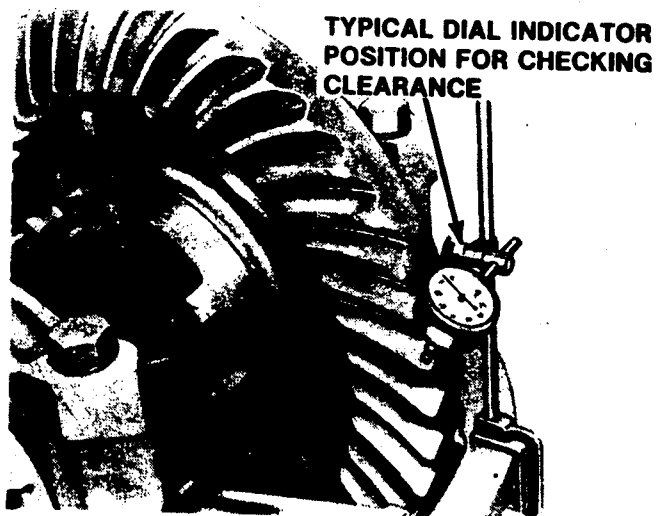

Figure 2. Checking Clearance
**NOTE:** If inspection indicates that the bevel pinion (24) is not to be replaced, measure the bevel gear clearance and make a record of the clearance. See Figure 2.